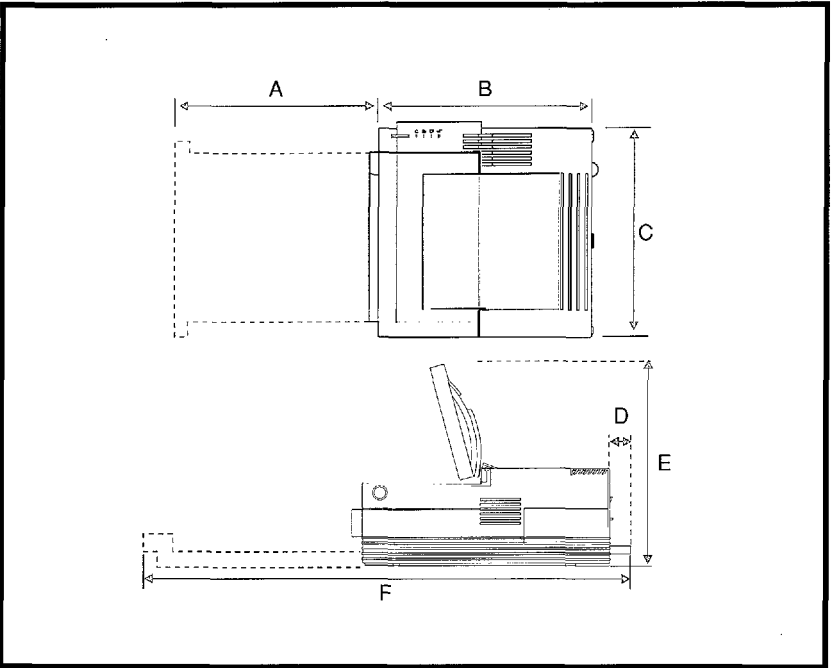

Figure 2-1 Printer Space Requirements
- Install with enough **space around the printer** for proper access and ventilation (see Figure 2-1).